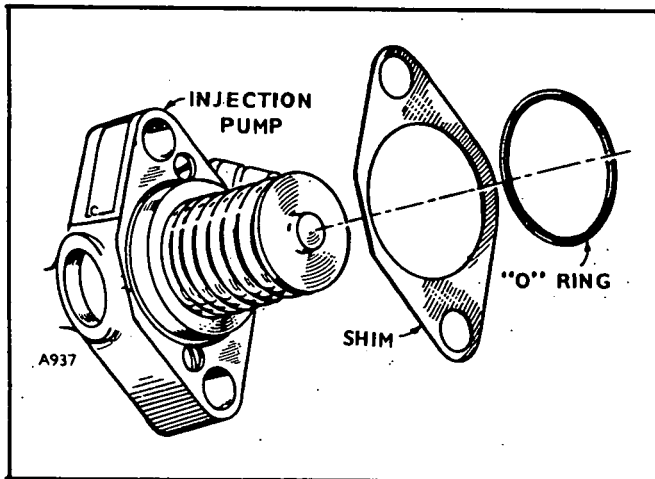

FIGURE 22. SHIMMING THE PILOT
1. Slide the shim or shims (using proper thickness of shims for correct timing) over the pilot until they are flat on the pump flange. See Figure 22.